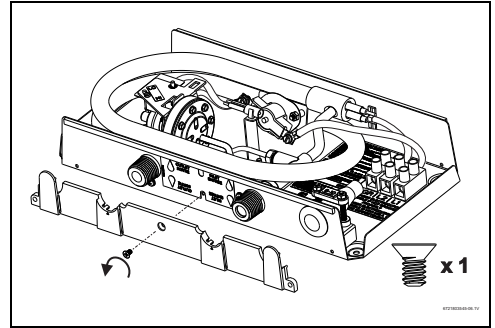

Fig. 7
- ▶ Remove lower trim held by a single screw (Fig. 7).